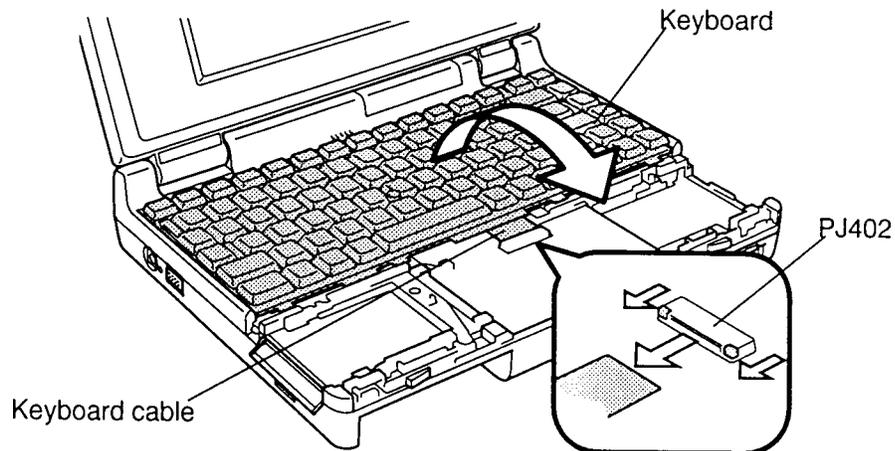

Figure 4-6 Removing the keyboard
8. Disconnect the **keyboard cable** from the pressure-plate connector (**PJ402**) on the upper system board (figure 4-6).
1. Connect the **keyboard cable** to **pressure plate connector** (PJ402) on the upper system board (figure 4-6).